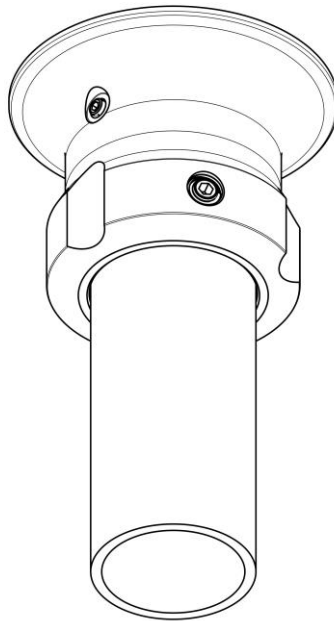
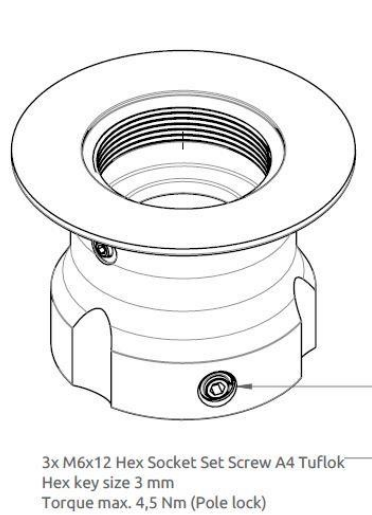
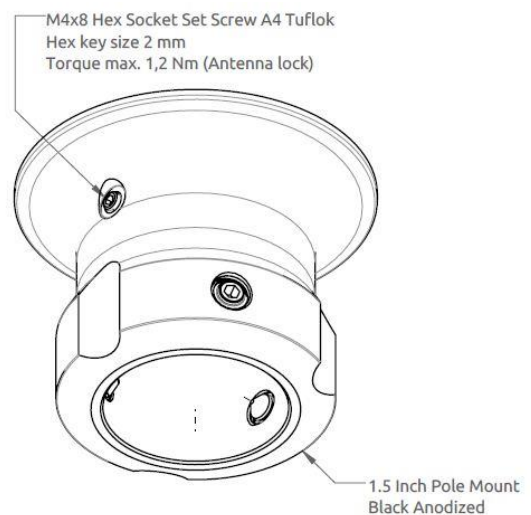

Figure 18: Pole Mount (1.5" pipe), Antenna Unit.
Figure 19: Pole Mount (1.5" pipe), Antenna Unit.
Figure 20: Pole Mount (1.5" pipe), Antenna Unit.
The Pole Mount (1.5" pipe, Ø38.8mm), Antenna Unit is illustrated in Figure 18 to Figure 20.
4. Screw the pole mount (clockwise) on the LT-4130 Antenna Unit, and fasten the antenna lock pinot screw, as illustrated in Figure 20 (max torque = 1.2 Nm)
5. The LT-4130 Antenna Unit and pole mount can now be mounted on the 2.0" pipe. Fasten the three pole lock pinot screws, as illustrated in Figure 19 (max torque = 4.5 Nm)
The Pole Mount (1.5" pipe, 38.8mm), Antenna Unit only supports a 1.5" pipe. The pinot screws (antenna and pole lock) torques are specified in Figure 19 and Figure 20. The pole mount is made of milled aluminum (anodized). The pinot screws are made of A4 stainless steel.